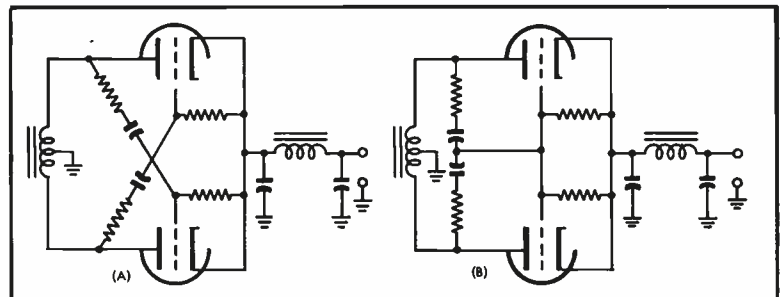

Fig. 2. Equivalent circuits of the power supply at (A) zero output setting, and (B) maximum output setting.
To illustrate the operation of this circuit, consider the simplified diagram at (A) in Fig. 2. Alternating voltages 180 deg. out of phase are applied to the grid and plate of each triode, so that, whenever the plate of one section is positive, its grid is driven negative. If the grid drive is sufficient, the tube remains cut off. On the other hand, when the grid is allowed to swing in the positive direction, the plate is negative, and there is again no plate conduction. Grid conduction is held to an insignificant value, as the small pulse of grid current on each cycle charges the coupling capaci-
Now suppose that a short circuit is connected between the two grids, as shown at (B) in Fig. 2. If the resistances in this circuit are properly proportioned, there will be no alternating voltage at the grids, and the triodes will operate continuously at zero bias, producing a high direct voltage output. If, on the other hand, a finite resistance is connected between the two grids, the output voltage will be somewhere between the two extremes. Use of a rheostat, as in Fig. 1, permits continuous variation in output.